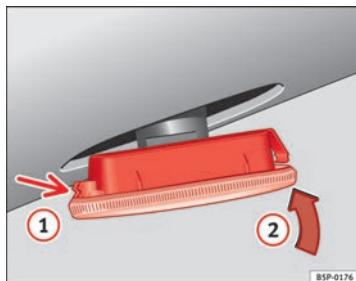

Fig. 195 Side turn signal
- First place the turn signal in the opening in the bodywork, fixing the tabs ⇒ fig. 195, arrow ①.
- Insert the bulb as shown by the arrow ② ⇒ fig. 195. ■